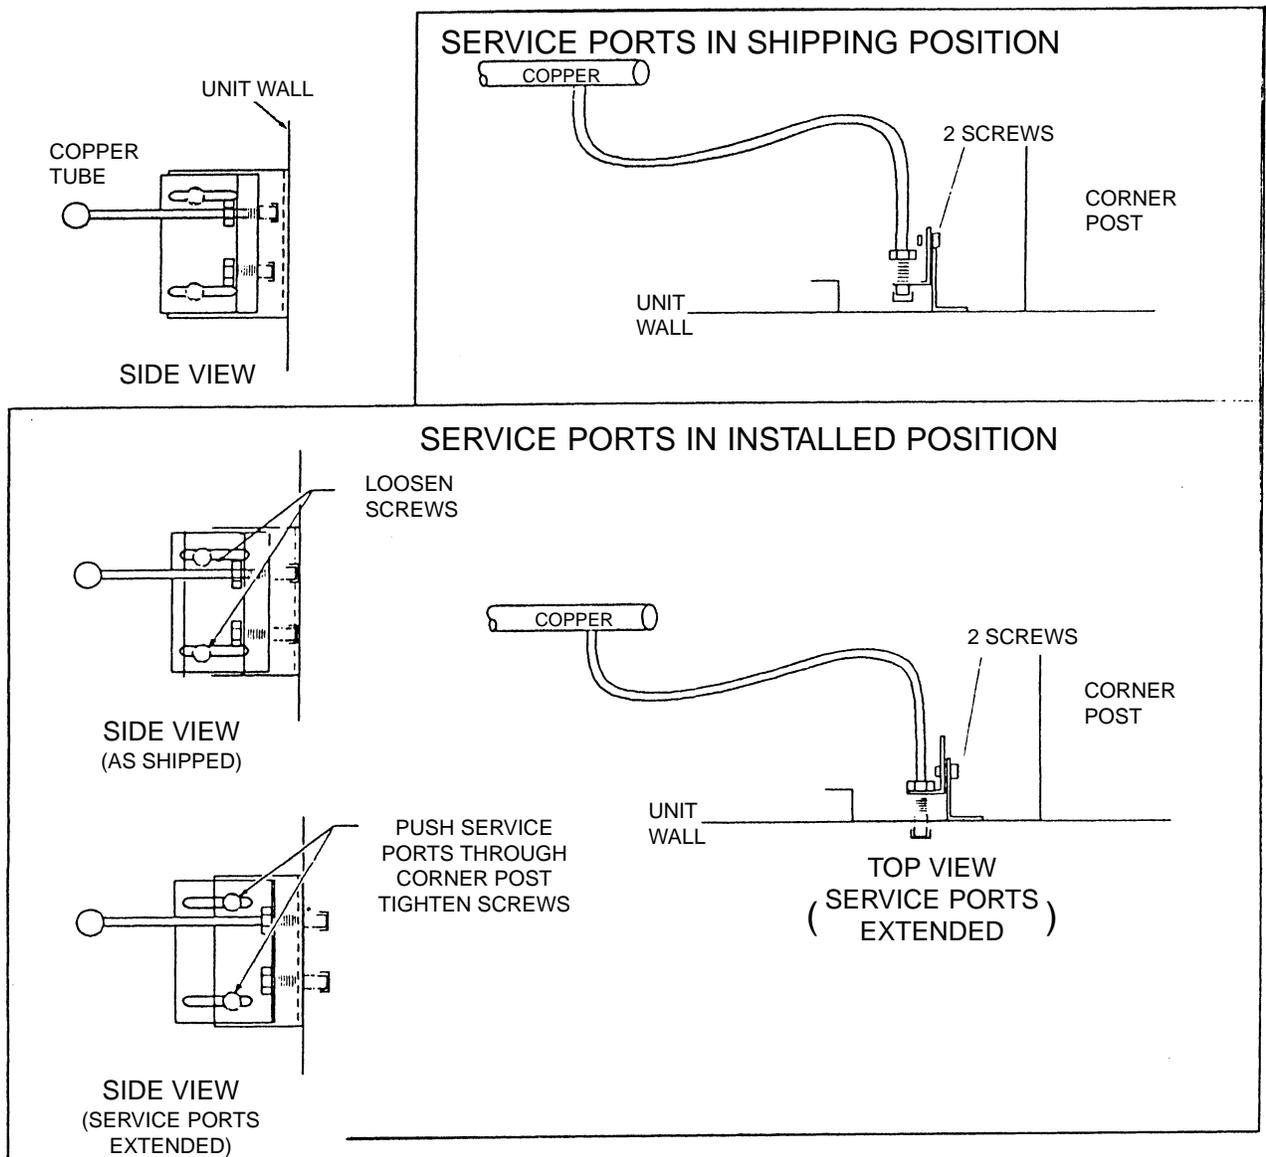

FIG. 5 – EXTENDING THE SERVICE PORTS
1. Loosen the screws securing the service ports in shipping position. (See FIG 5).